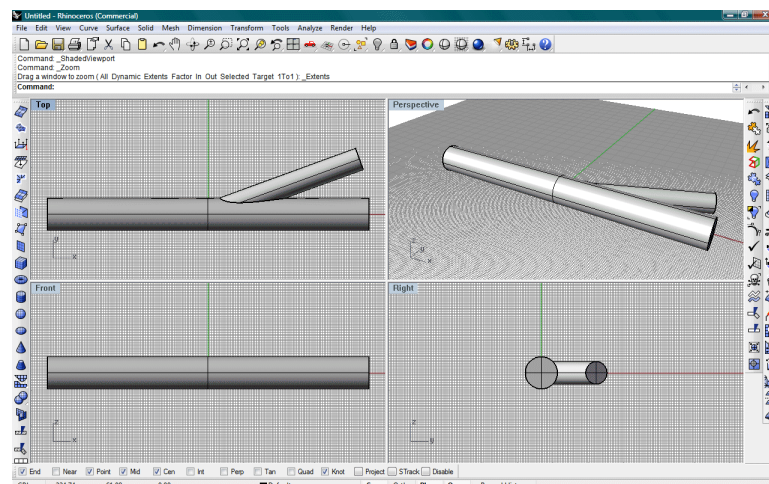

Figure 93: Bifurcation resulting from the union of the larger and the remaining section of the smaller cylinder.
45. Select the **two** remaining polysurfaces, and select **Solid | Union** to complete the creation of one single closed solid representing the bifurcation. Click on the button marked **Shaded Viewport** to display a shaded view of the completed bifurcation (Figure 93).